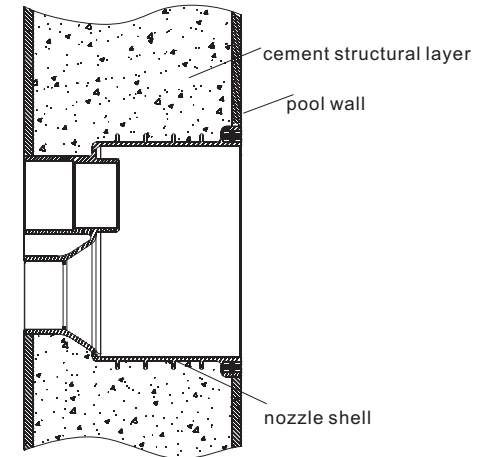

Figure 2
- b) Fit counter current jet body into in to concrete wall. ( Figure 2)